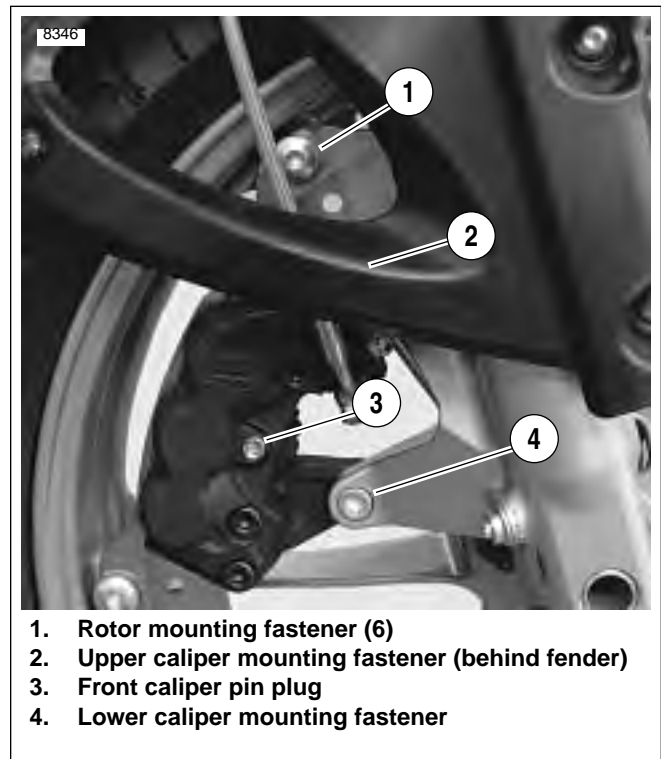

Figure 1-19. Front Brake Caliper
1. See Figure 1-19. Loosen pin hanger under pin hanger plug (3) but do not remove.
2. Rotate wheel so that caliper is centered between rotor mounting fasteners (1).
3. Remove lower caliper mounting fastener (4) that secures caliper to fork lower.
4. Loosen but do not remove upper caliper mounting fastener (2) that secures caliper to fork lower.
5. Remove pin hanger under pin hanger plug (3).
5. See Figure 1-19. Install pin under pin hanger plug (3) making sure it engages hole on both pads and spring clip.
7. See Figure 1-19. Install lower caliper mounting fastener (4).
9. Tighten pin under (3) to 11-14 ft-lbs (15-19 Nm).
10. Install pin plug (3). Tighten plug to 18-25 **in-lbs** (2-3 Nm).